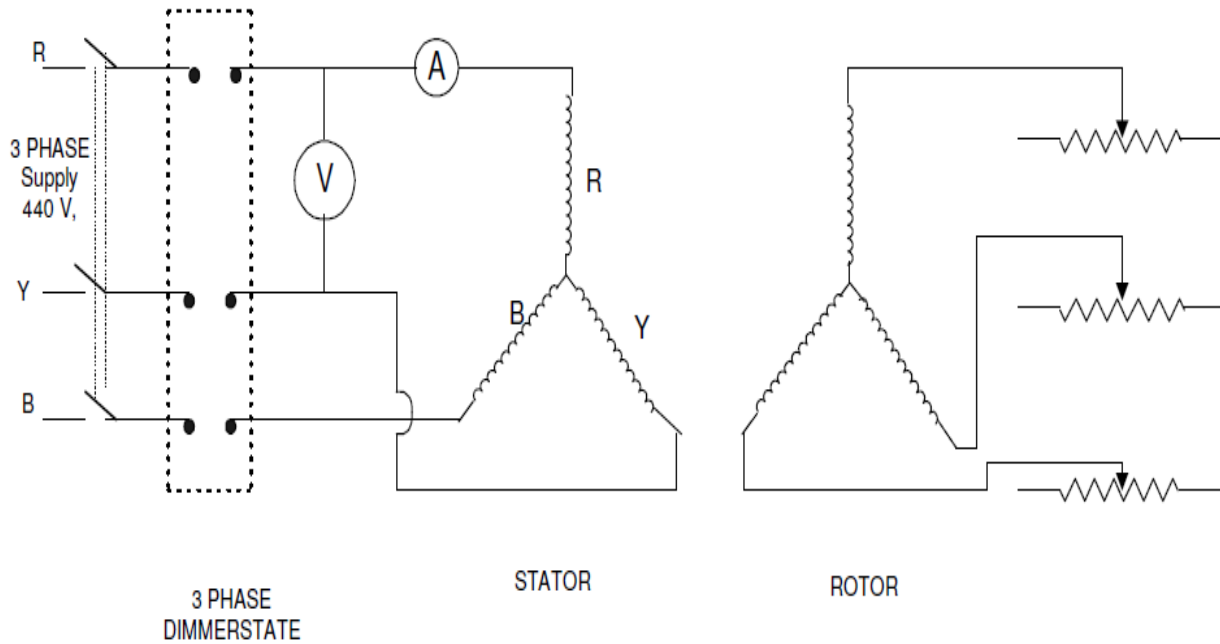

Figure-1
1. Connect the ckt. as shown in Figure-1.